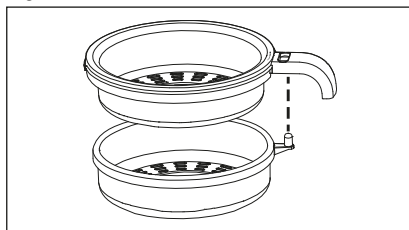

Fig. 1
- ▶ Do not touch the pressing cone ❷/❸ while it is turning and do not hold any items of cutlery or other objects against rotating components. Keep your clothing and hair away from all rotating parts.
- ◆ If necessary, unwind the connecting cable from the cable retainer ❷.
- ◆ Place the base ❶ on a dry and level surface.
- ◆ Assemble the sieve attachment ❹/❺.
To do this, place the two parts on top of each other in such a way that the selector switch ❻ juts through the corresponding opening of the upper part ❹ (Fig. 1).